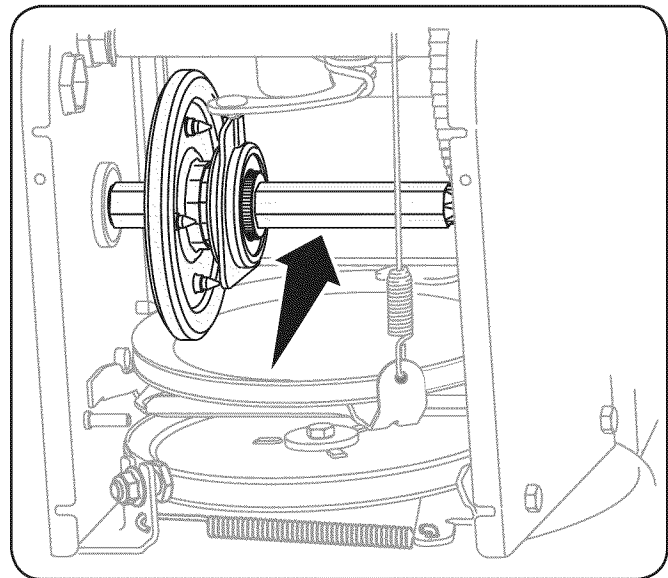

Fig. 6-2
4. Apply a light coating of engine oil (or 3-in-1 oil) to the hex shaft. See Fig. 6-2.